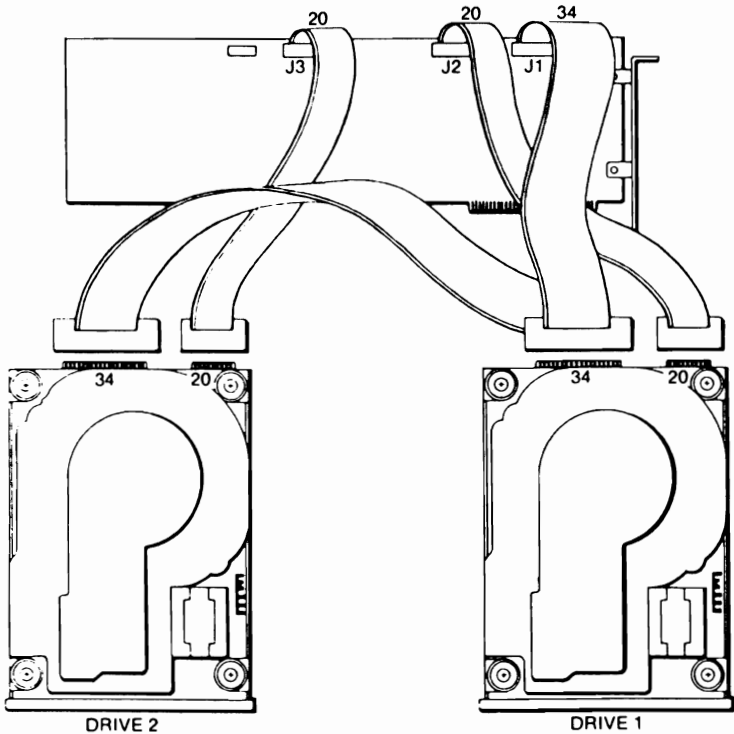

Figure 11: Installing Two Hard Disk Drives
3. Connect the 20-pin data cable from drive 1 to the J2 connector and the 20-pin data cable from drive 2 to the J3 connector. Then connect the 34-pin daisy-chain cable to the J1 connector (see Figure 11).